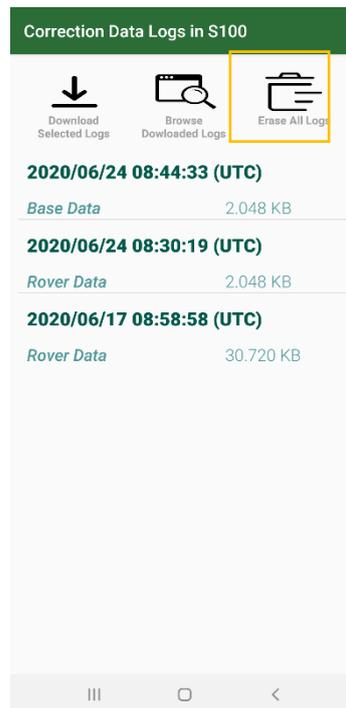

Figure 7-9
1. Click "Erase All Logs". See Figure 7-9.